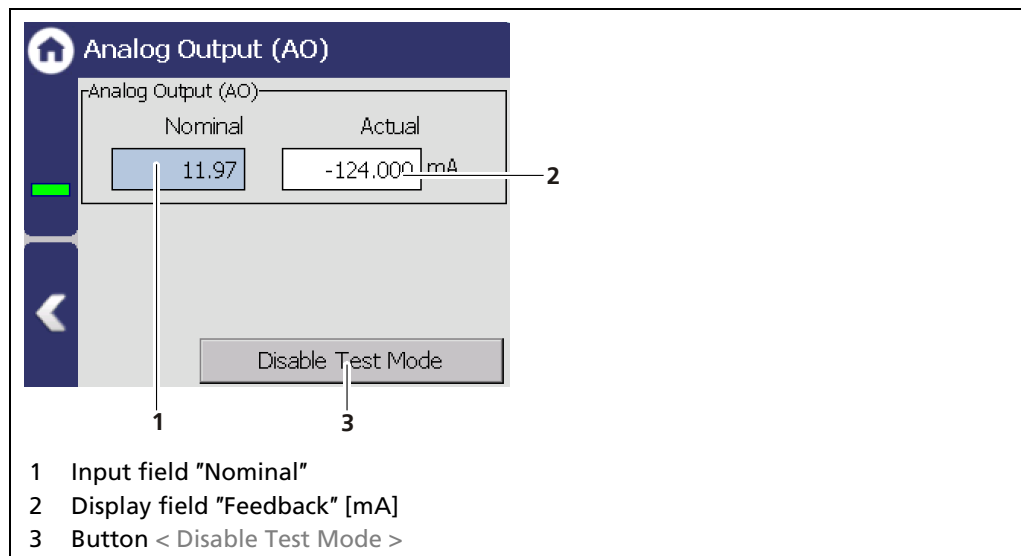

Fig. 126 Simulation Analog Output
1. Click on the input field (Fig. 126, item 1) and enter the target value for the simulation.
3. Click on the < Disable Test Mode > button (Fig. 126, item 3) to stop the simulation.